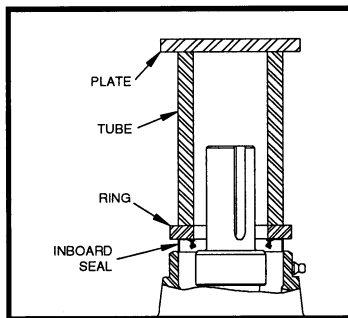

Figure 6.2.3.2 Placement of Tooling for Installation of Inboard Seal
6. With an arbor press, push the seal into the hub. Stop pressing when the ring seats on the hub. Stop pressing when the seal seats fully inside the hub. **Reference Figure 6.2.3.4.**